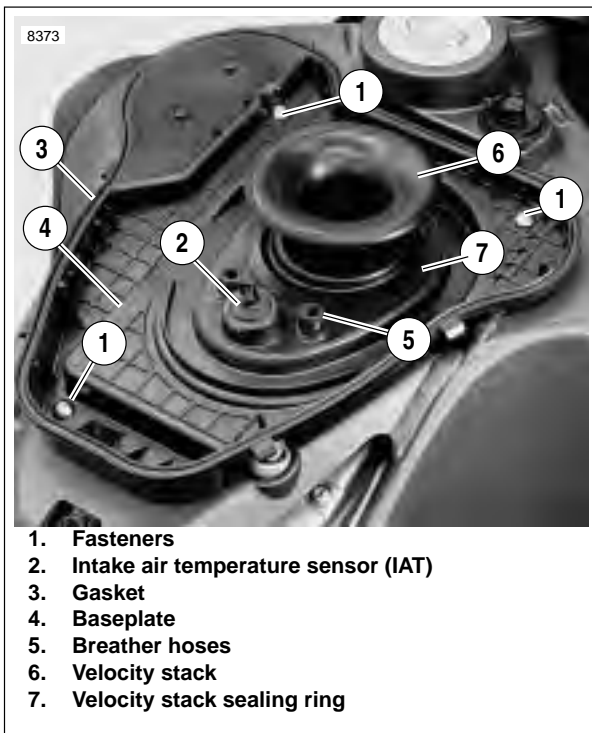

Figure 4-120. baseplate (all models)
5. See Figure 4-120. Remove air cleaner baseplate.
- a. Remove four fasteners (1) and raise baseplate (4).
- b. Disconnect longer breather hose (5) from baseplate (pull out from bottom).
- e. Lift baseplate off of frame, carefully disengaging baseplate from rubber sealing ring (7) on velocity stack (6).
1. See Figure 4-120. Hold baseplate above mounting position.